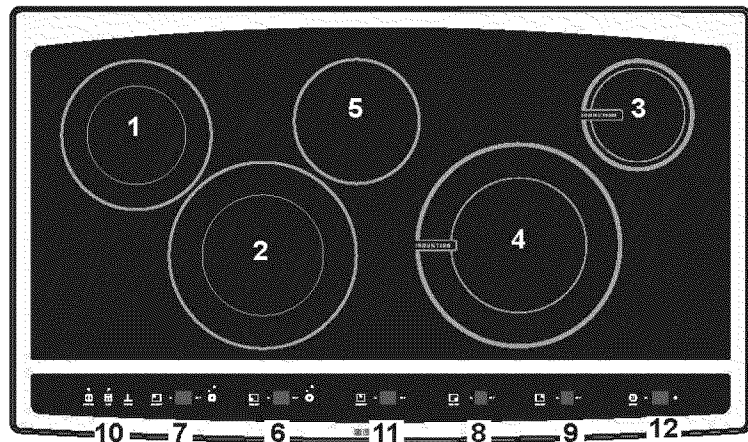

Fig. 2 - 36" Model
11. Center Rear Element Control Pads (Fig. 2 only)